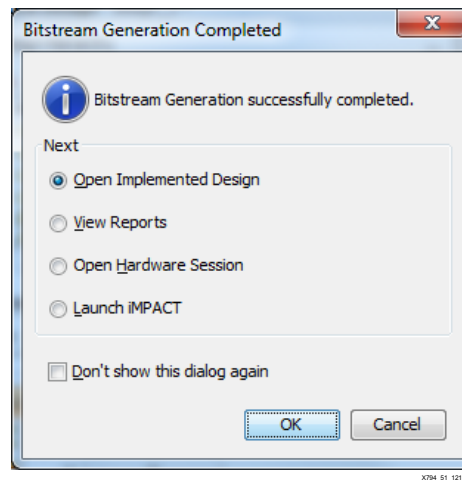

Figure 51: Bitstream Generation Completed
3. Once the bitstream is created, select **Open Implemented Design** and click **OK** (see Figure 51).